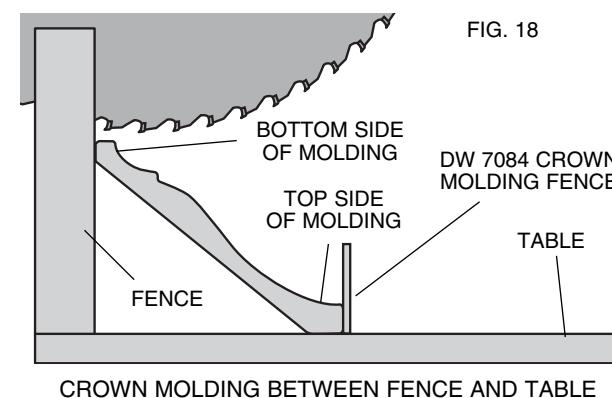

FIG. 18
Place the molding on the table at an angle between the fence and the saw table, as shown in Figure 18. Use of the crown molding fence accessory (DW7084) is highly recommended because of its degree of accuracy and convenience. The crown molding fence accessory is available for purchase from your local dealer.
1. Angle the molding so the bottom of the molding (part which goes against the wall when installed) is against the fence and the top of the molding is resting on the base of the saw, as shown in Figure 18.